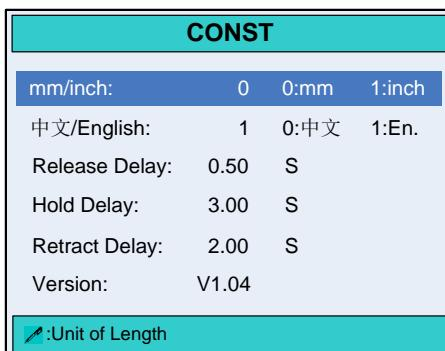

Figure 3-2 The **CONST** page
- Step 2** Press **P** two times to enter the **CONST** page, as shown in Figure 3-2.